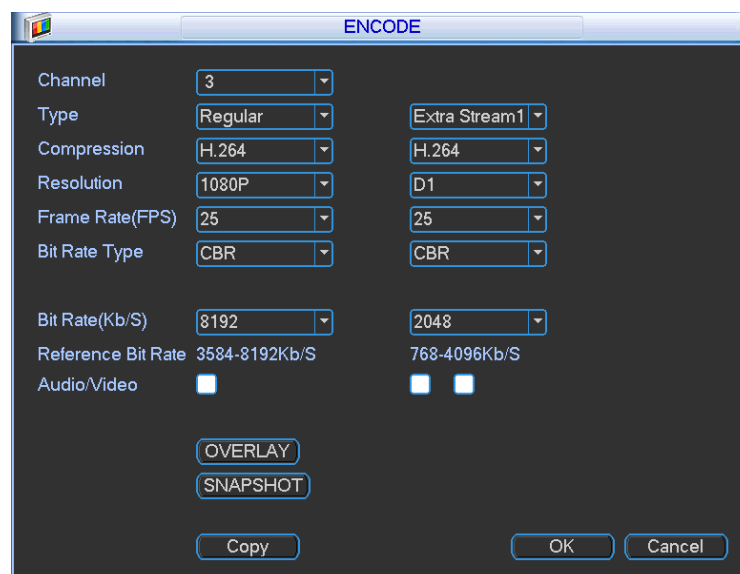
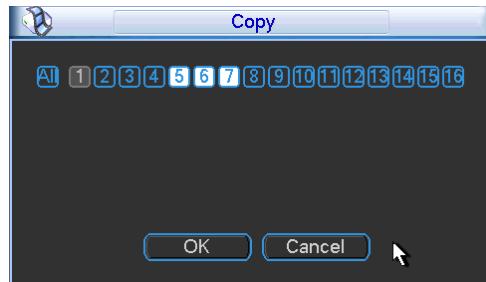
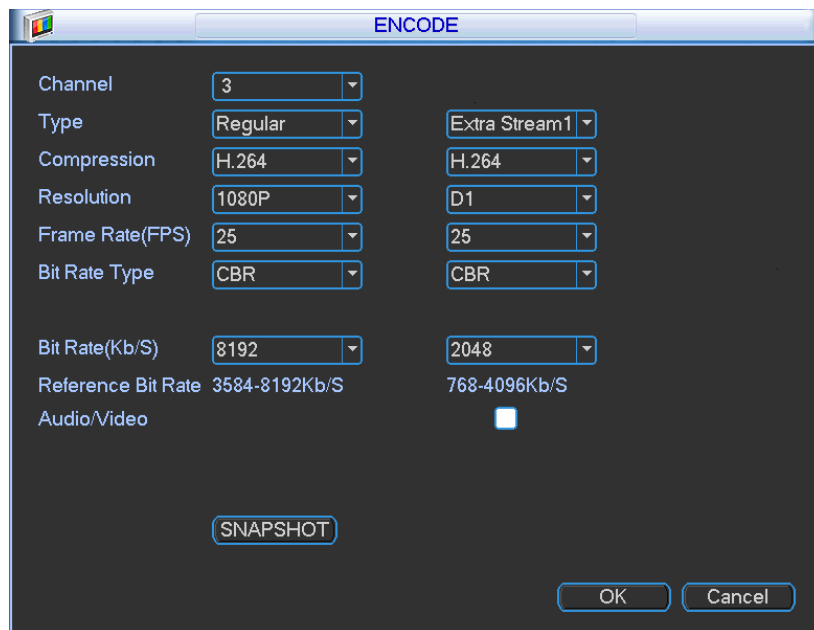

Figure 5-26
Figure 5-28
Figure 5-29
Encode setting includes the following items. See Figure 5-26.
- ✧ Copy: After you complete the setup, you can click Copy button to copy current setup to other channel(s). You can see an interface is shown as in Figure 5-28. You can see current channel number is grey. Please check the number to select the channel or you can check the box ALL. Please click the OK button in Figure 5-28 and Figure 5-26 respectively to complete the setup. Please note, once you check the All box, you set same encode setup for all channels. Audio/video enable box, overlay button and the copy button is shield. See Figure 5-29.